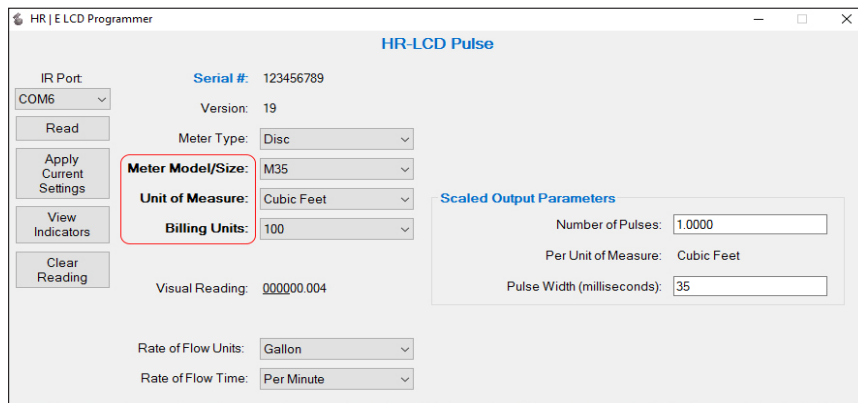

Figure 13: Unprogrammed values
**NOTE:** The field label changes to **bold** text, indicating a new, unprogrammed value is selected. See Figure 13.